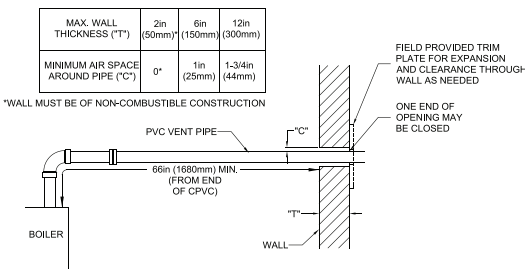

Figure 12: Wall Penetration Clearances for PVC Vent Pipe
- PVC vent pipe may not be used to penetrate combustible or non-combustible walls unless all following three conditions are met simultaneously (see Figure 12):
- An air space of at least of that shown in Figure 12 is maintained around outside of the vent pipe to provide air circulation
- Install contractor provided optional trim plate on outside surface of wall to cover opening (see Figure 12).